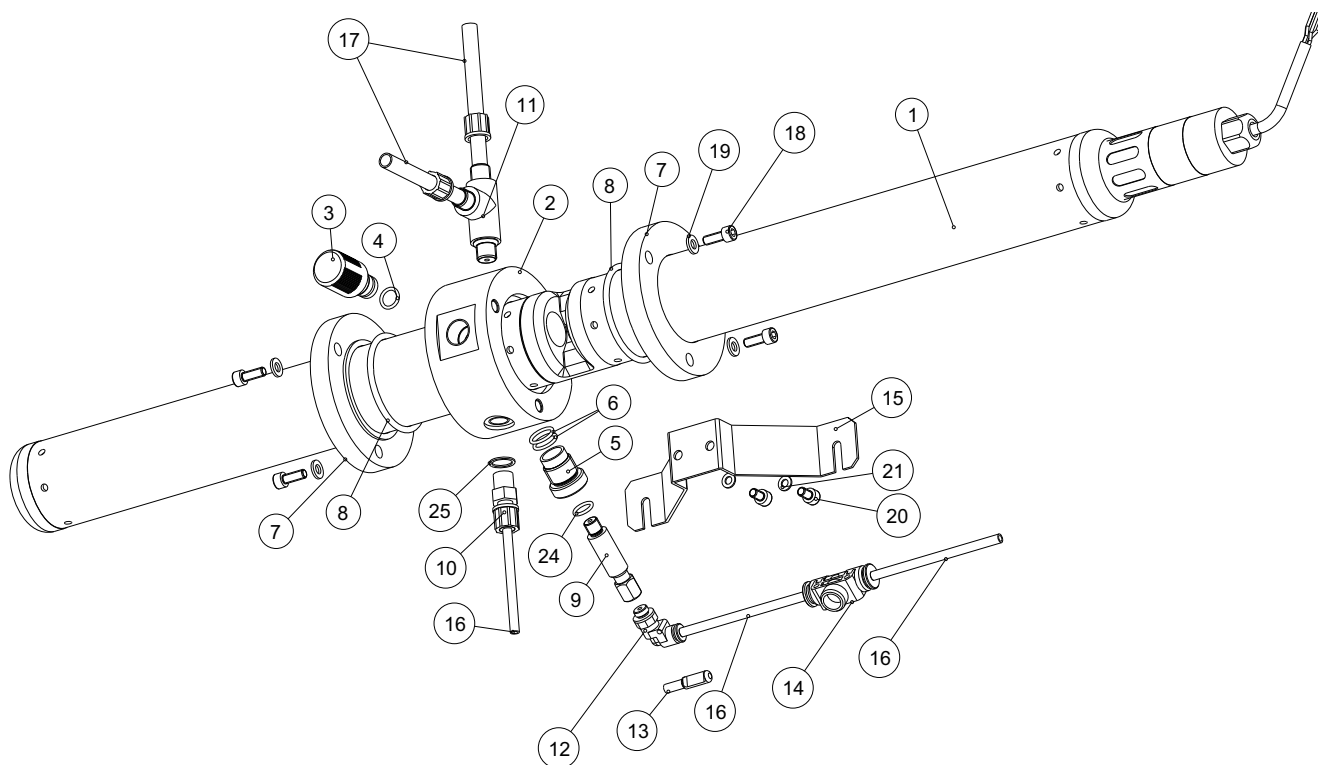

Fig. 1-1 Exploded drawing
16	Sample inlet: Connect the sample inlet hose (6 mm outer diameter) to the straight screw coupling for the sample inlet positioned on the underside of the measuring chamber (pos. 10 in Fig. 1-1).